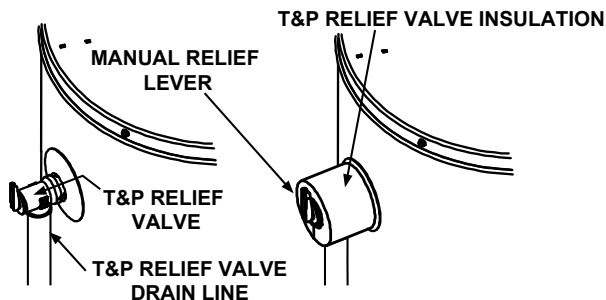

FIGURE 13B.
1. Locate the temperature and pressure relief valve on the water heater (also known as a T&P relief valve). See Figure 13B.
3. Spread the slit open and fit the insulation over the T&P relief valve. See Figure 13B. Apply gentle pressure
IMPORTANT: The insulation or tape should not block or cover the T&P relief valve drain opening. Also, the insulation or tape should not block or hinder access to the manual relief lever (Figure 13B). Ensure that a discharge pipe is installed into the T&P valve discharge opening per the instructions in this manual.